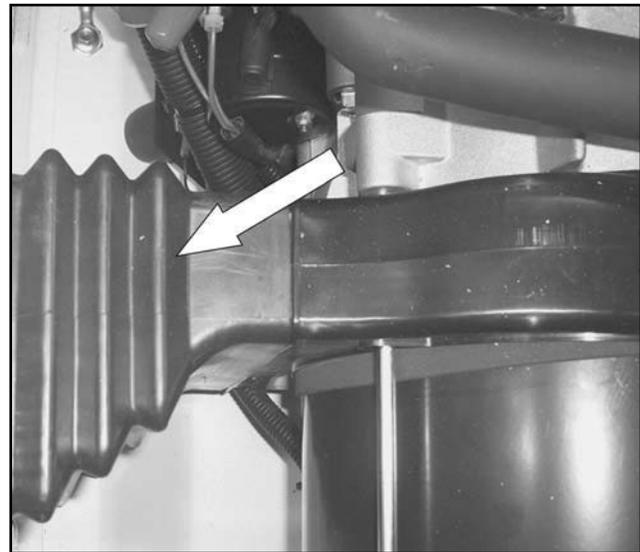

Figure 38.
15. Alternator Air Intake Bellows Removal: Remove alternator intake bellows. See Figure 38.